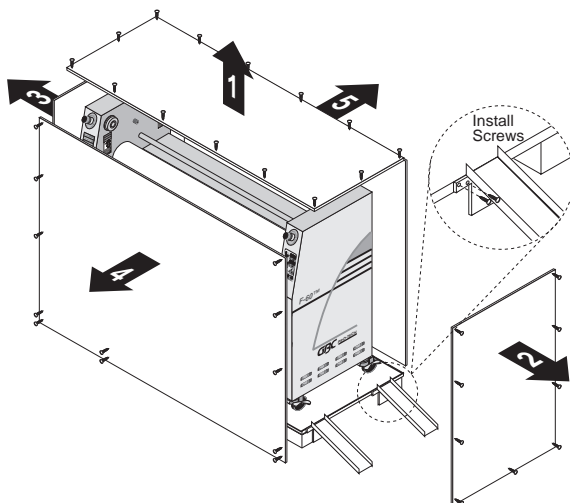

Figure 2-2: Removing the Crate
1. Remove the top of the crate and sides 2 and 3 as shown in Figure 2-2.
A second person must support the side labeled (5) in Figure 2-2. It can fall and damage the laminator.
10. The ramps included with the laminator can be secured to the edge of the crate bottom using the screws left over from the crate disassembly (see Figure 2-2).